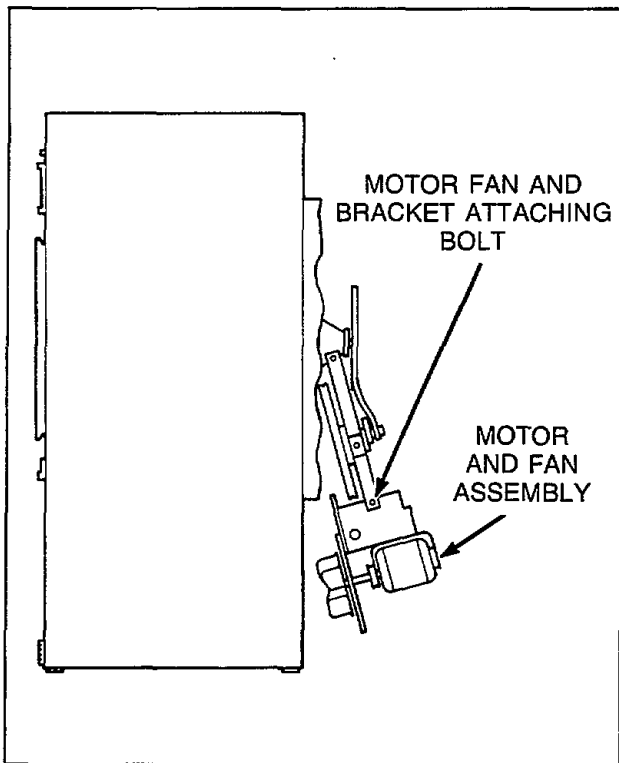

Figure 27
- i. Using the guide rails as support, swing motor and fan assembly out and away from rear of tumbler, *Figure 27*.
- j. While supporting motor and fan assembly, remove the bottom bolt holding the motor fan and bracket to guide rails, *Figure 27*.